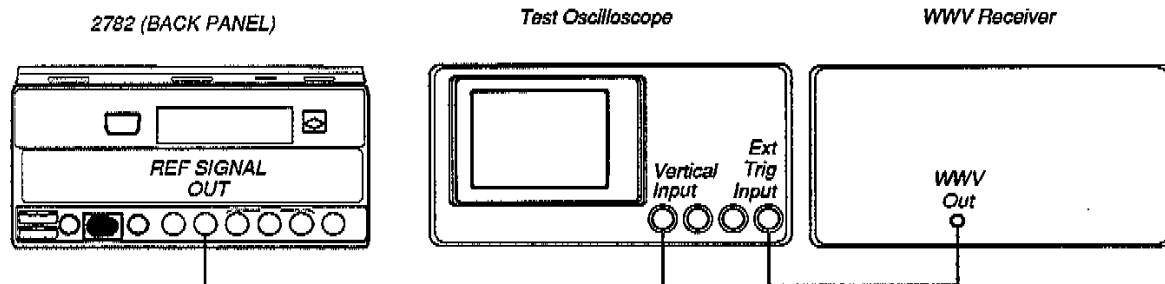

Figure 3-8. Test Equipment Connections for Reference Oscillator Check and Adjustment.
1. As shown in Figure 3-8, connect the output of the 2782 REF SIGNAL OUT connector (located on the rear panel of the instrument) through a 50 Ω cable to one of the vertical channel inputs of the test oscilloscope.